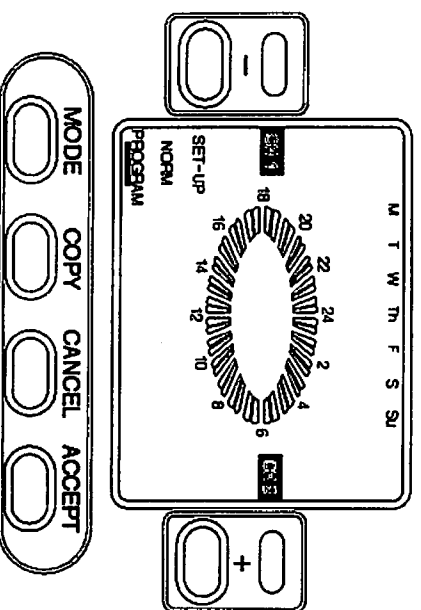

Fig. 7
- b. Press MODE button and repeat until PROGRAM is indicated on LCD. CH1 and CH2 indicators are now flashing. See Fig. 7, page 13.
2. Select channel to be viewed. See Fig. 7, page 13.